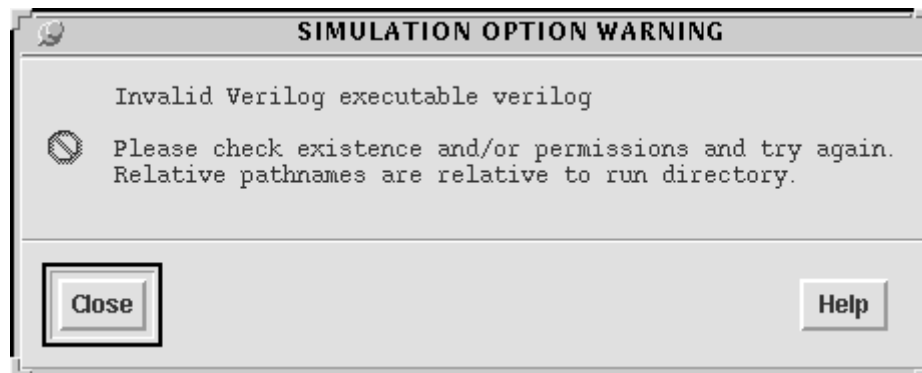

Fig 3: Simulation Option Warning
- c. A “Simulation Option Warning” appears as shown in Fig 3. Click **CLOSE**.